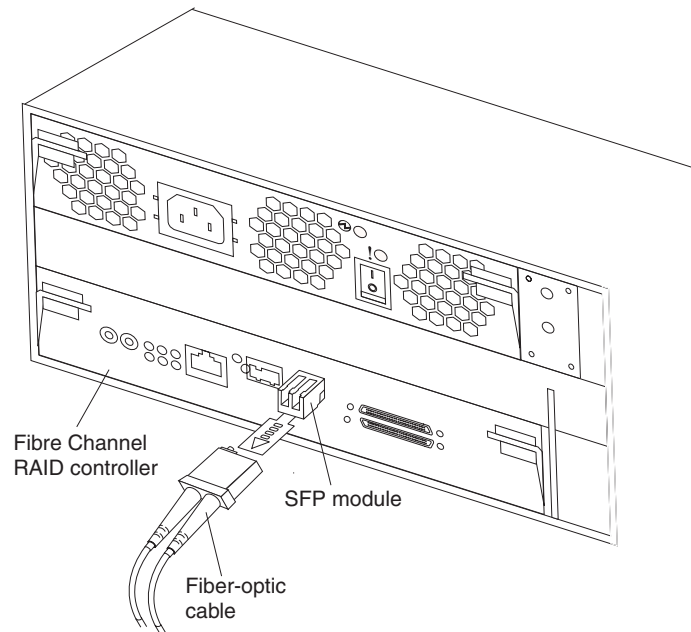

Figure 35. Connecting a fiber-optic cable to the installed SFP module
3. Connect the fiber-optic cable to the installed SFP module, as shown in Figure 35.